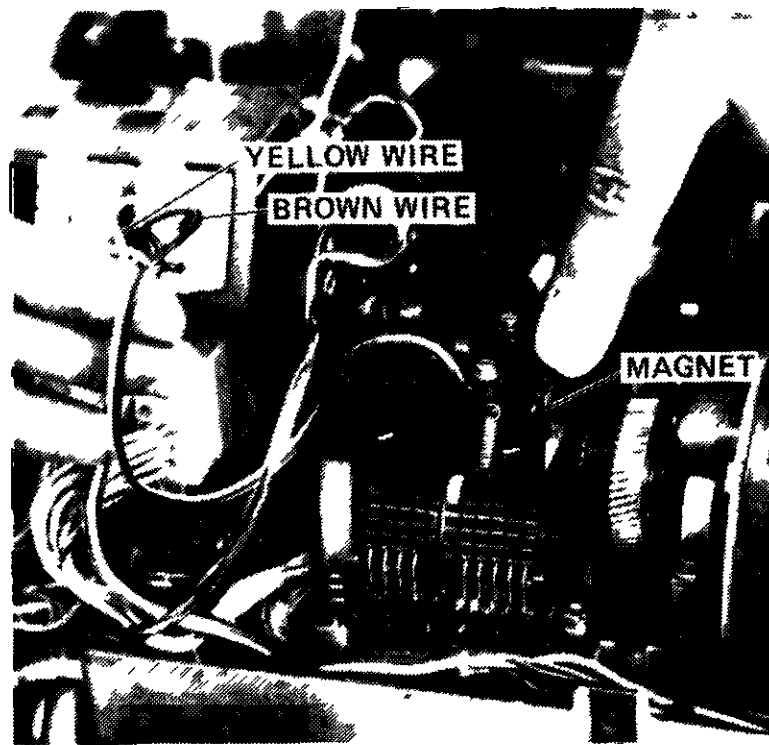

Figure C-7. Distributor Trip Magnet
2. Disconnect brown wire shown in figure C-7 from plastic connector. Connect this brown wire to terminal 12 on mode switch. (Brown wire will have to be extended.)